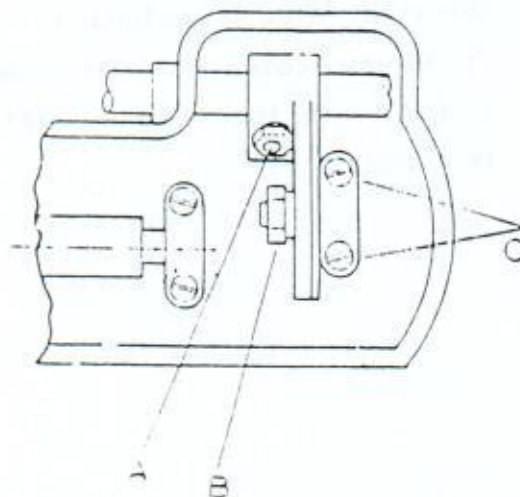

Fig. 27
2. Loosen the puller driving connecting ball joint nut B in Fig 27.